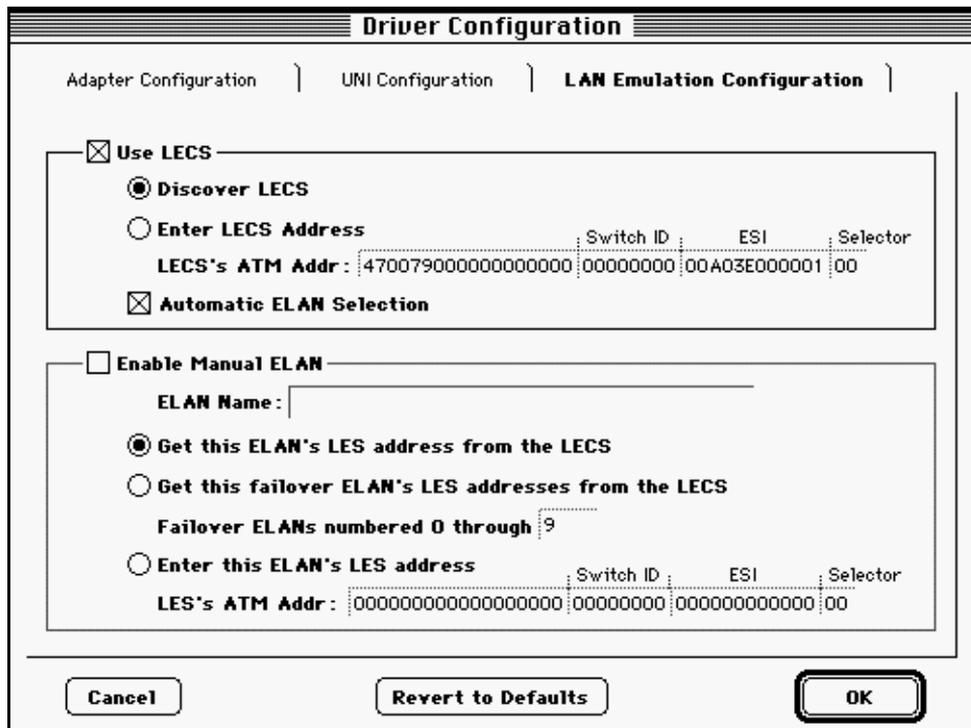

Figure 4.19 - LAN Emulation Configuration Tab
The LAN Emulation Configuration tab, shown in Figure 4.19, allows you to determine how to communicate with the LECS (if your site is using one), configure a LECS address, and add the manual ELAN. This tab is accessed through the `Edit` menu of the InFOREmation Center under the `Driver Preferences...` menu selection.
2. Click the `LAN Emulation Configuration` tab as shown in Figure 4.19. This is shown in default mode, i.e., `Use LECS` is enabled.
2. Click the `LAN Emulation Configuration` tab as shown in Figure 4.19.